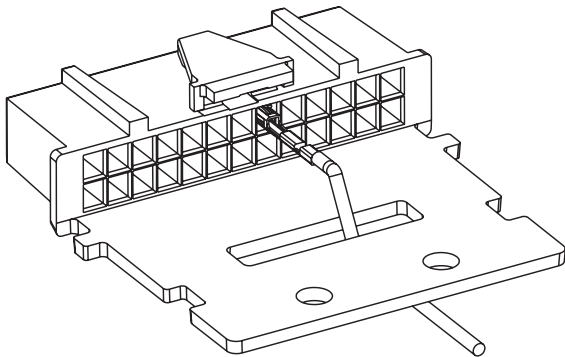

Figure 1a. Wire Strain Relief
6. Route wires through connector as shown in *Figure 1a*, or for applications with multiple accessories connected to the mobile radio, route wires as shown in *Figure 1b* and use the cable tie to secure wires to the connector after completing step 7.